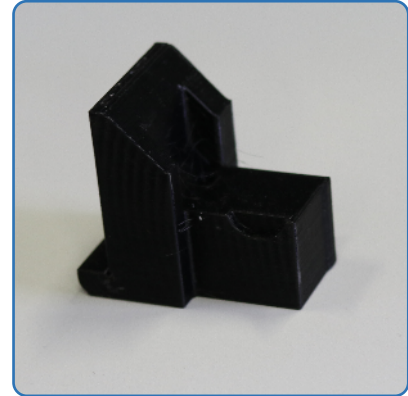

Figure 18: Remove the *Alignement Tool*
1. Carefully remove the Alignement Tool (Figure 18)